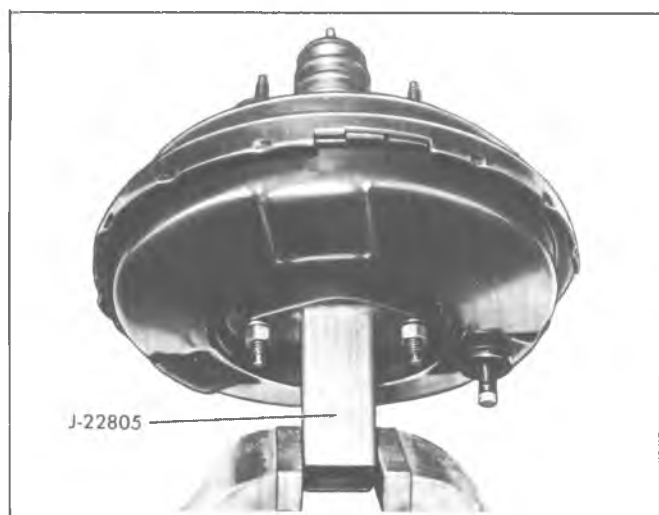

Fig. 5-2C--Holding Power Cylinder Using Tool J-22805
2. Attach base of Tool J-22805 to front housing with nuts and washers and draw down tight to eliminate bending or damage to studs. Clamp base in bench vise with power section up (fig. 5-2C).